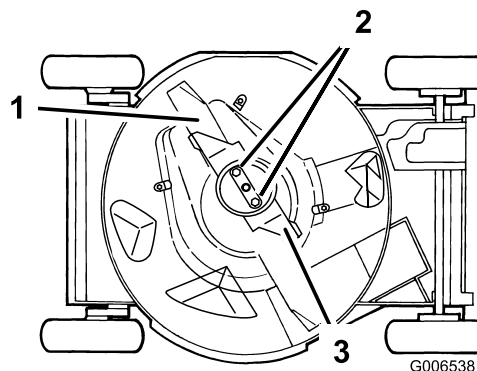

Figure 36
4. Tip the machine to the side, with the dipstick down (Figure 36).